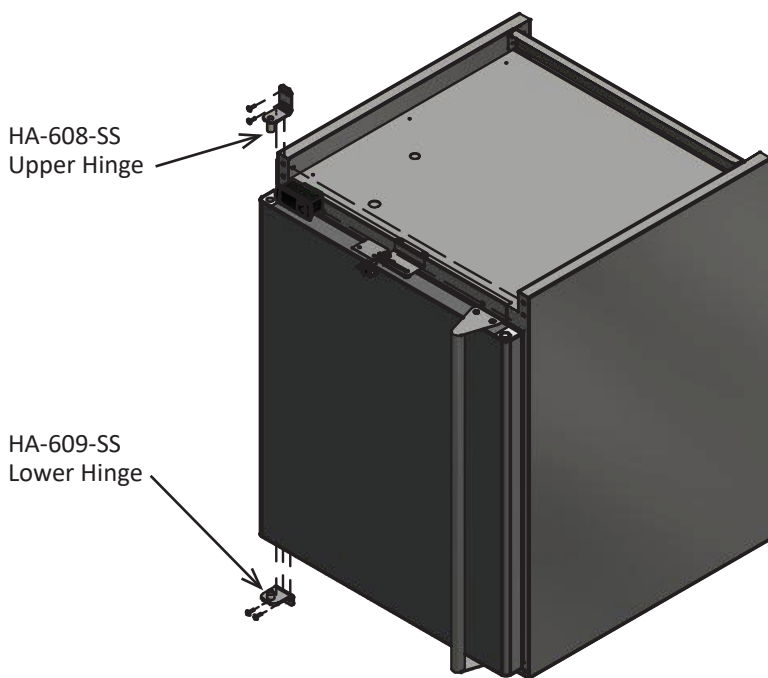

FIG. 6
Step 4. Attach the Hinges to the left side of the cabinet. See figure 6.